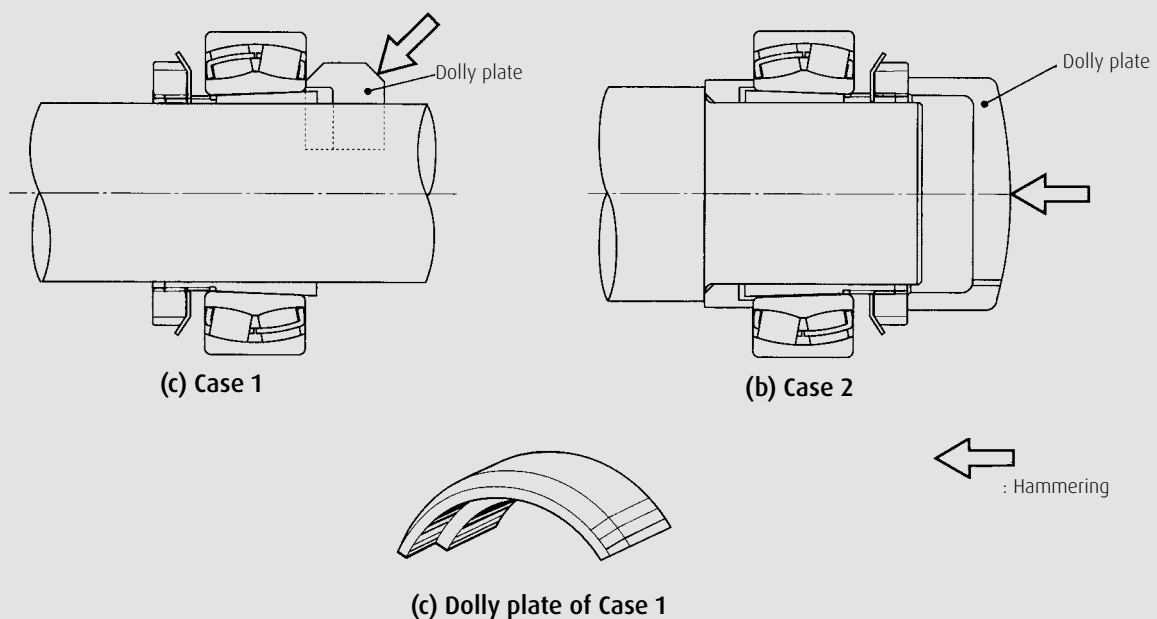

Fig. 7.4 Hammer method
7.2.2 Hammer Method (Fig. 7.4)
Procedure (Case 1: In case of straight shaft **Fig. 7.4 (a)**)
Procedure (Case 2: When spacer ring is used **Fig. 7.4 (b)**)